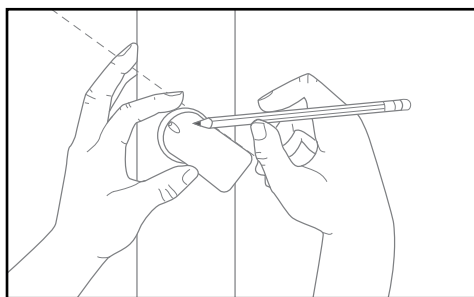

Fig. 6
- Align the post return according to the Hand Rail layout line and mark attachment hole positions - Fig. 6.